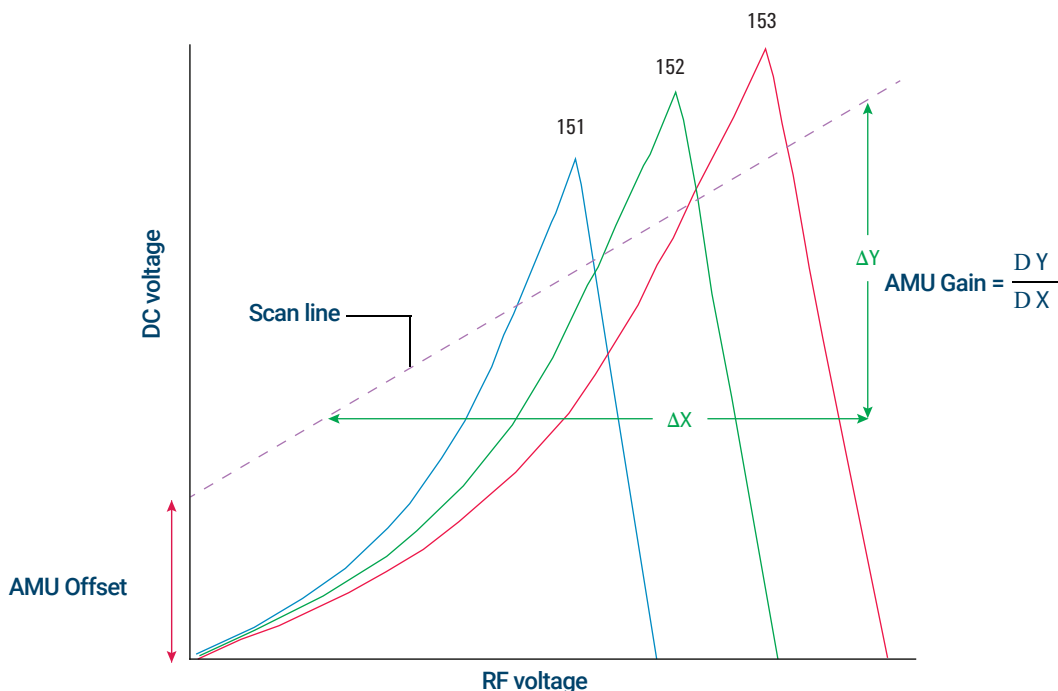

Figure 10. Diagram showing AMU Gain and Offset for 3 ions
**Figure 10** on page 33 is an example of a Mathieu Stability Diagram showing how the detection of 3 ions vary with the DC and RF voltages on opposing poles of the mass filter. Each DC/RF pair that allows a certain mass/charge to oscillate with stability through the quadrupole is indicated by a separate curve. The goal is to obtain a unit mass resolution and a half height peak width of 0.5 AMU by varying the AMU Gain and AMU Offset. The slope of the Scan line is the AMU Gain. Its Y-axis intercept is the AMU Offset. If you examine where the Scan line intersects the stability curves for these three ions in **Figure 10** on page 33 you will see that the region above the Scan line has a unit resolution for these three ions. Increasing the lines offset improves specificity at the cost of resolution and peak width.